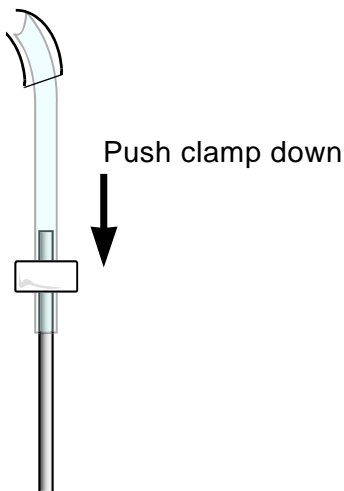

Figure 5-10. Tubing Clamp Positioning
4. Now, push the tubing clamp down until it is positioned as shown in Figure 5-10.